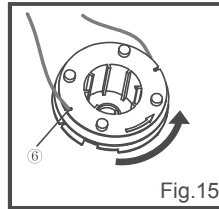

Fig.15
- Wind the trimming lines onto the spool. Ensure the line is wound in the direction indicated by the arrow on the spool (Fig. 15). Make sure to wind the line on neatly and in layers. Do not criss-cross.
- Place each end of the lines in the parking slots (⑥) on the edge of the spool, leaving some of the line out (Fig. 15).